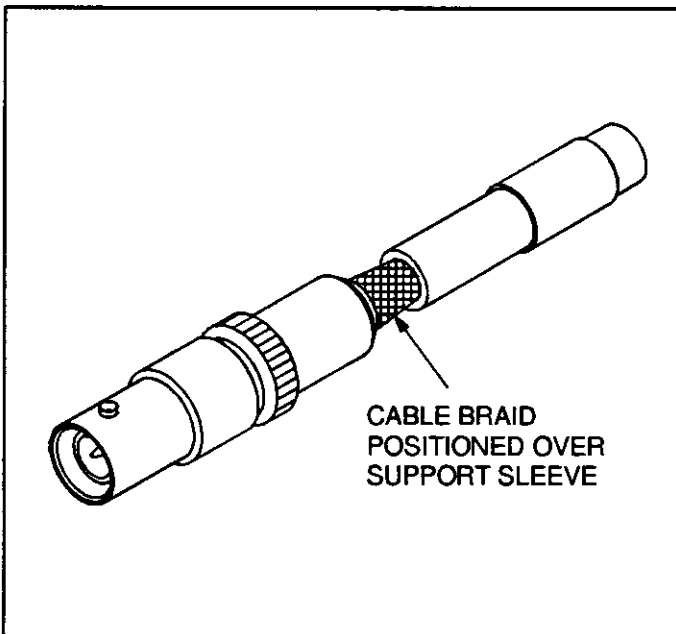

Fig. 4
3. Flare cable braid. Insert contact into jack body until it snaps into place. Make sure that the cable braid is positioned over the support sleeve of the jack body. Gently pull back on the cable to ensure that the contact is held in place by the internal locking feature. See Figure 4.